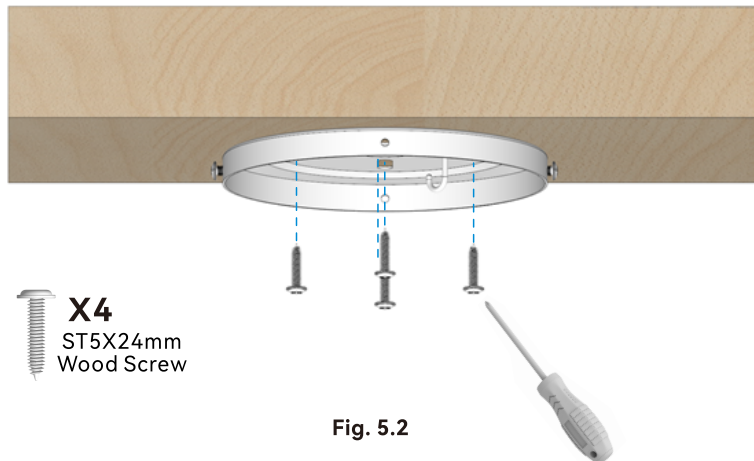

Fig. 5.2
**Option 1:** Secure the mounting plate to a wooden ceiling beam or support structure with an approved electrical outlet box using the ST5x24mm wood screws (included) as shown in Fig. 5.2.